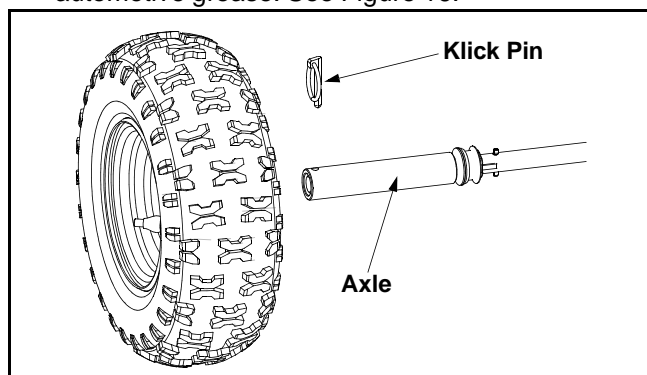

Figure 16
- Oil or spray lubricant into bearings at least once a season. Pull the click pins and remove wheels, clean and coat axles with a multipurpose automotive grease. See Figure 16.